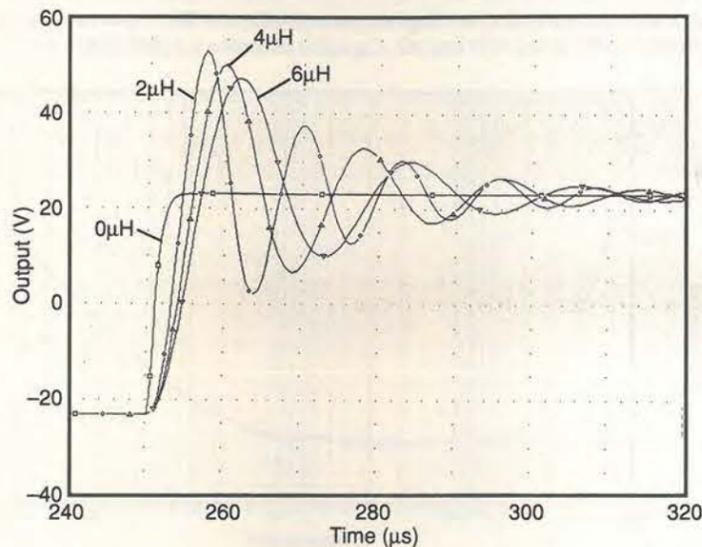
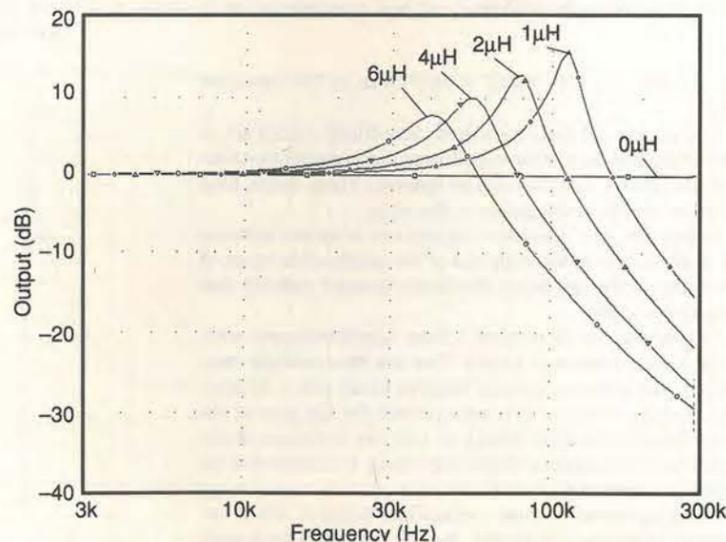

Fig. 6. The output inductor value has little effect on ringing amplitude.
Fig. 7. Effect of output inductor value on frequency response. Higher values cause more invasion of the audio band.
**Output inductance.** Increasing the inductance with all other components held constant reduces the overshoot, Fig. 6, and the amount of response peaking, but the peak moves downward in frequency so the rising response begins to invade the audio band, Fig. 7.